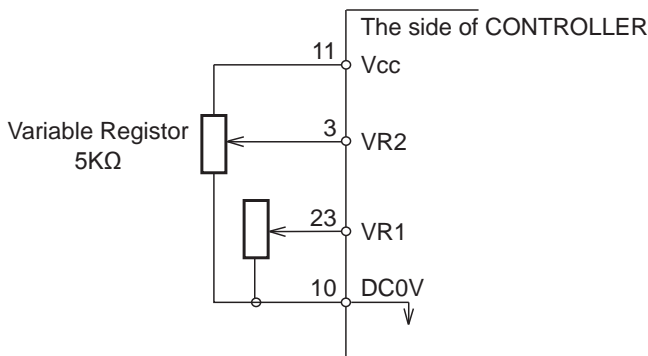
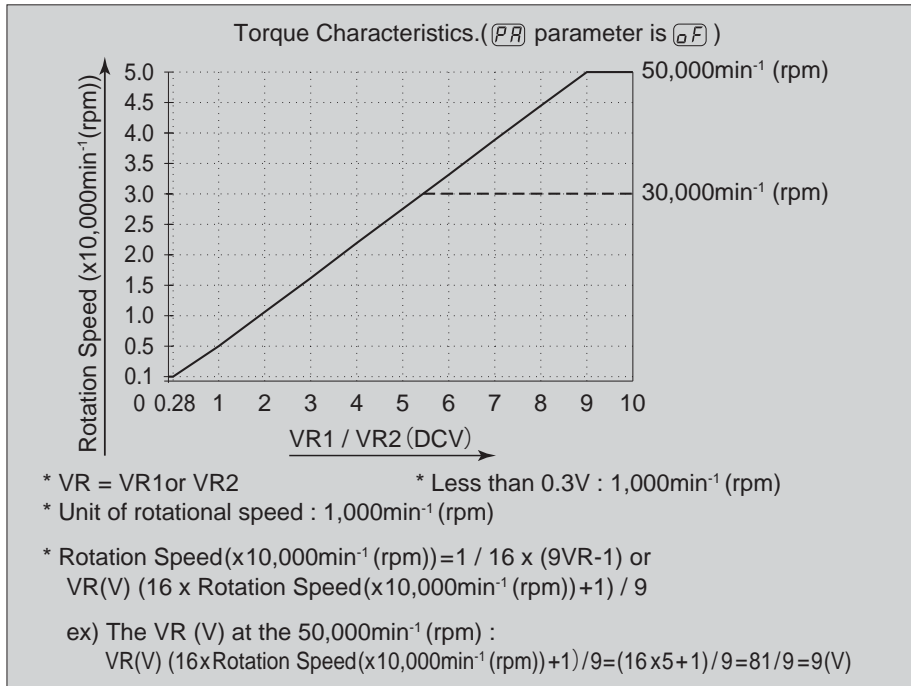

Fig. 25
Fig. 27
④ Motor Speed Control Signal
Rotation Speed can be selected by, applying analog voltage to VR1 and VR2. Refer to Fig. 25, 26 for connections. Refer to Fig. 27, 28 for the relationship between Motor Speed and " Motor Speed Control Voltage (VR) ".